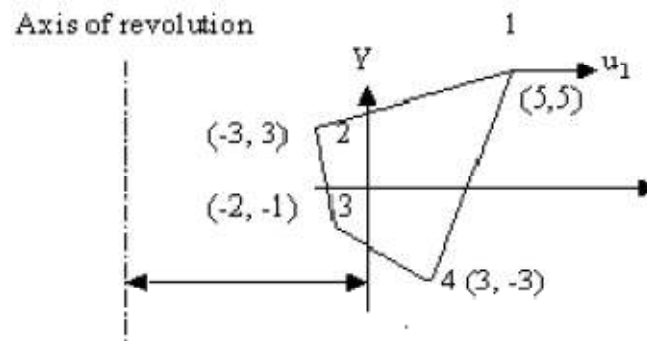

Fig.3
8. Fig.3 shows an isoparametric axisymmetric two-dimensional finite element.